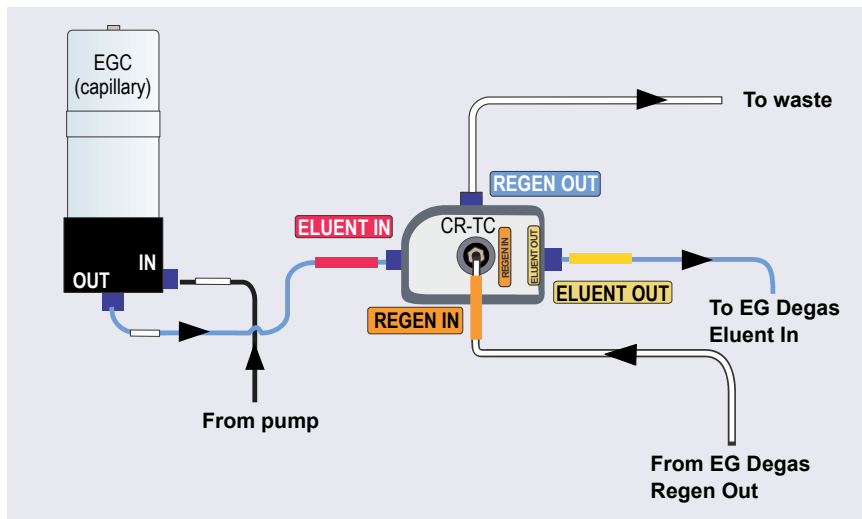

Figure 10-29. *Capillary Dionex CR-TC 600 Plumbing Diagram: Installation Completed*
4. Connect the regen out and eluent in lines from the EG degas cartridge to their respective ports on the Dionex CR-TC 600 (see Figure 10-29).